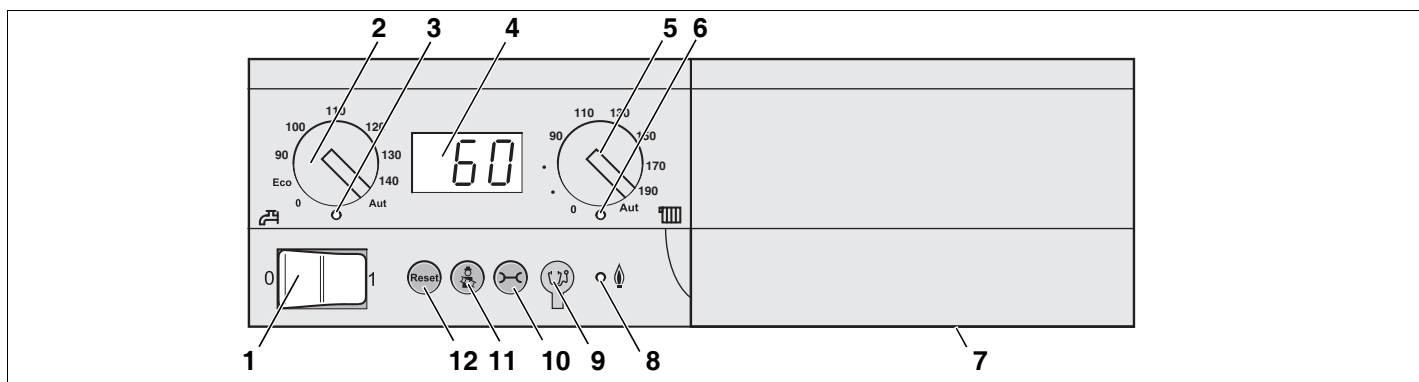

fig. 2 Basic Controller Logamatic BC10
The basic controller BC10 (see fig. 2) is located on the left side in the drawer.
The menu structure of the boiler can be viewed on the BC10 using the "Reset" (⊖), "Chimney sweep" (⚙️) and "Service" (⚠️) (see fig. 2, pos. 9, 10 and 11) buttons and the display indication (see fig. 2, pos. 4).